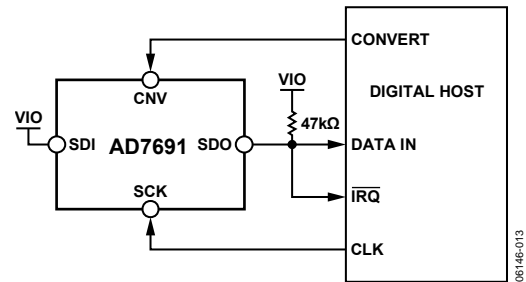
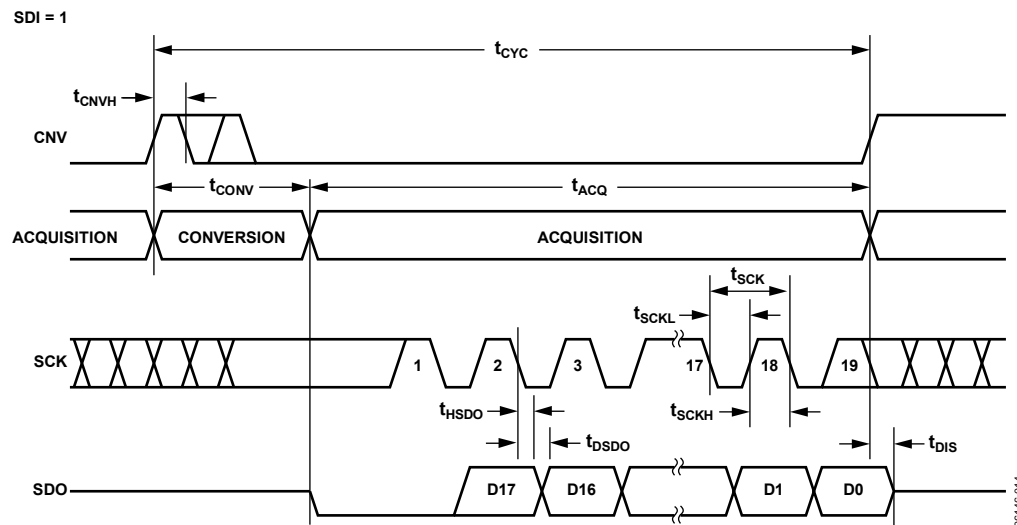
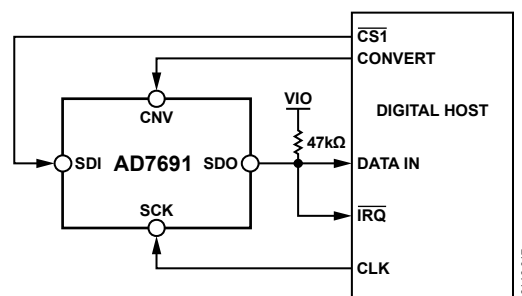
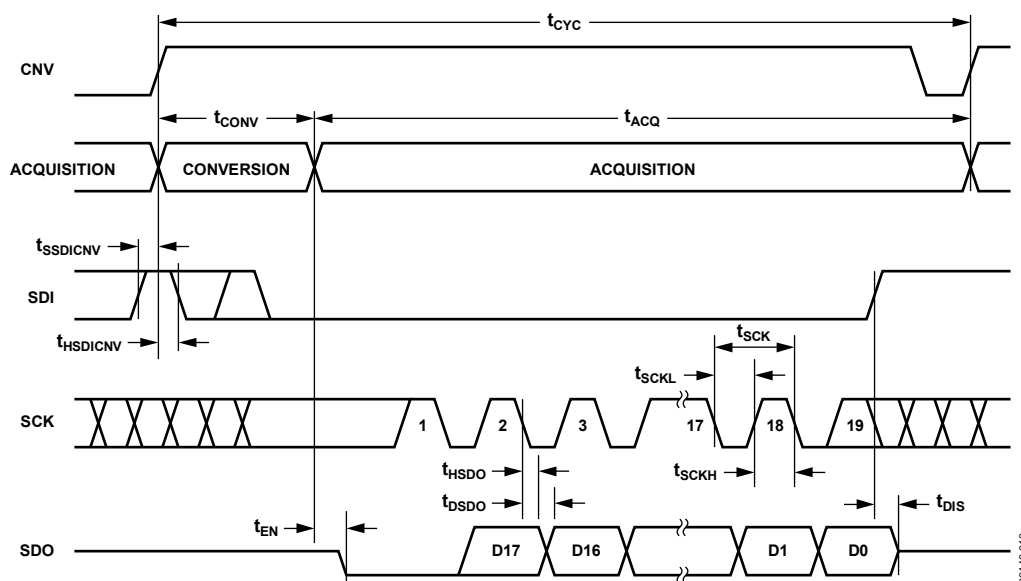

Figure 37. 3-Wire  $\overline{\text{CS}}$  Mode with Busy Indicator Connection Diagram (SDI High)
Figure 38. 3-Wire  $\overline{\text{CS}}$  Mode with Busy Indicator Serial Interface Timing (SDI High)
Figure 41. 4-Wire  $\overline{\text{CS}}$  Mode with Busy Indicator Connection Diagram
Figure 42. 4-Wire  $\overline{\text{CS}}$  Mode with Busy Indicator Serial Interface Timing
- In the  $\overline{CS}$  mode if CNV or SDI is low when the ADC conversion ends (see Figure 38 and Figure 42).
The connection diagram is shown in Figure 37, and the corresponding timing is given in Figure 38.
The connection diagram is shown in Figure 41, and the corresponding timing is given in Figure 42.